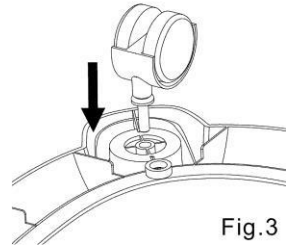

Fig.3
**Step 3:** Insert the casters into the holes in the base, in a turning motion. Then press down and make sure the casters are firmly attached (Fig. 3).